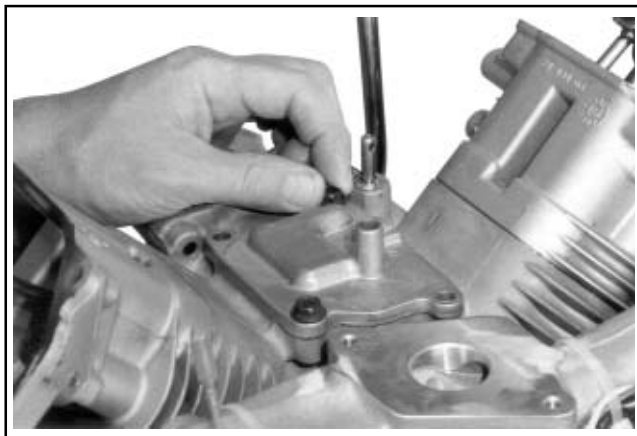

Figure 11-58. Installing Screws (Locations 3 and 4).
6. Carefully position the breather cover on the crankcase. Install first two hex. flange screws at positions shown in Figure 11-58 and finger tighten at this time.